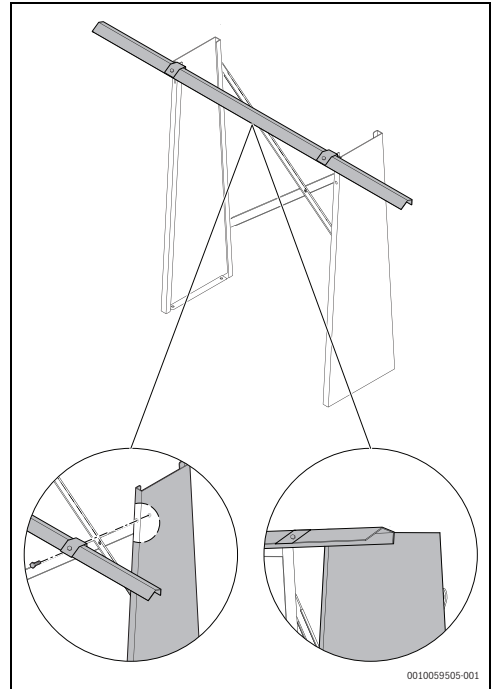

Fig. 11
- ▶ Align the collector mounting rail with the front of the assembled support structure (see fig. 11).